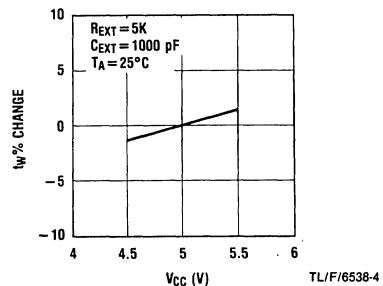
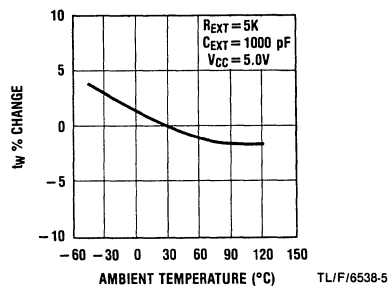

FIGURE 3
FIGURE 4
5. Output pulse width versus V_{CC} and operation temperatures: Figure 3 depicts the relationship between pulse width variation versus V_{CC}. Figure 4 depicts pulse width variation versus ambient temperature.